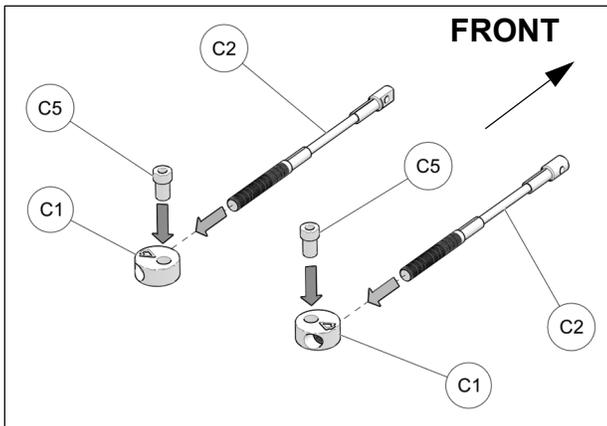

Fig. 22
12. Assemble steering limiter cables (C2), aluminum disks (C1) and step spacers (C5) together as shown on Fig. 22